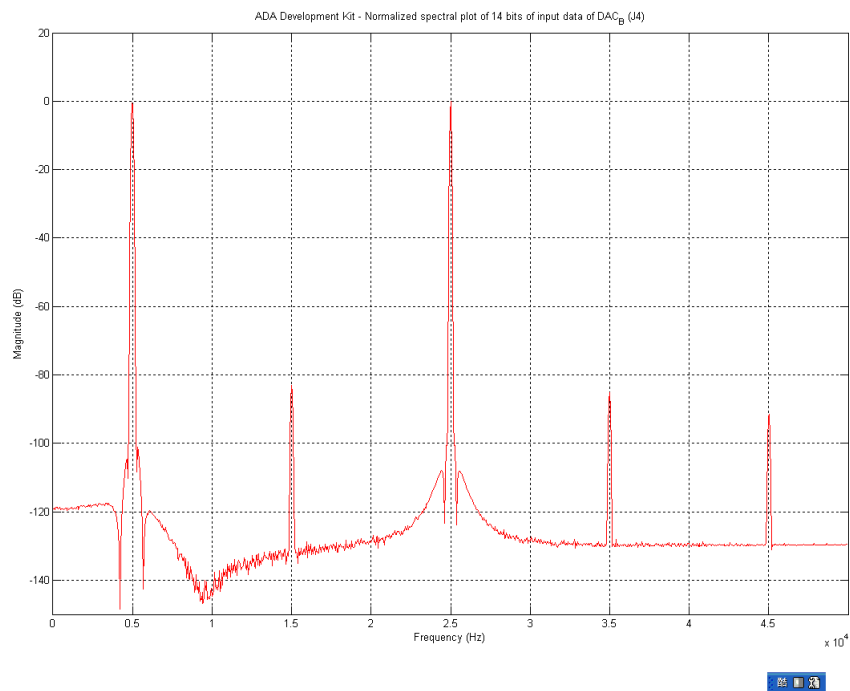
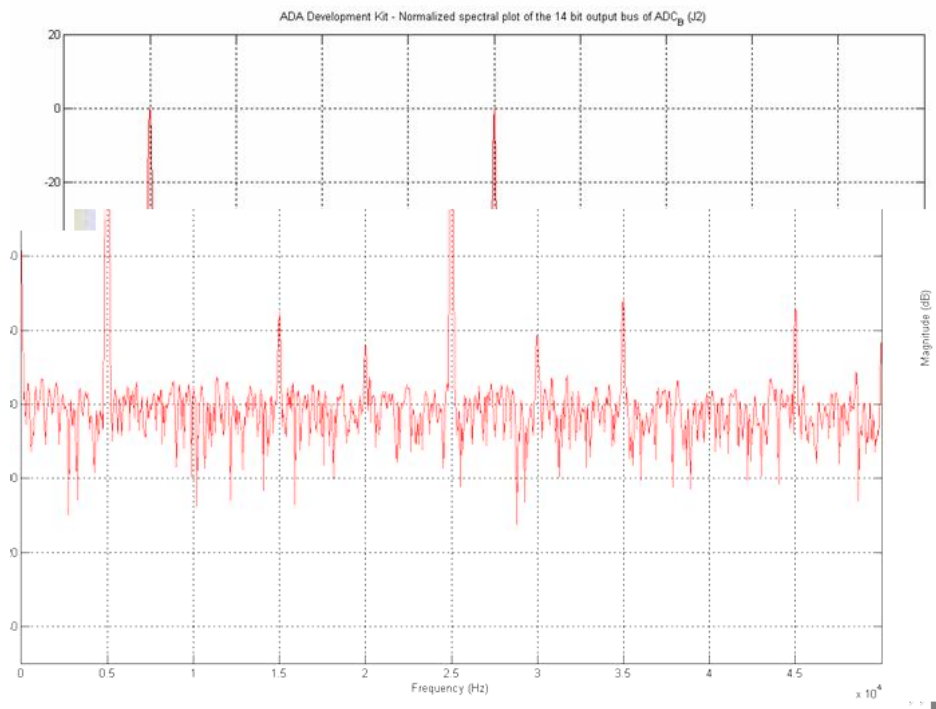

Figure 4-6 Normalized Spectral Plot of The 14-bit DAC B Input Data
Figure 4-7 Normalized Spectral Plot of The 14-bit ADC B Output Data
4. Type nstp_plot('stp1_auto_signaltap_0.txt') at the MATLAB command prompt. The MATLAB will display normalized FFT plots of DAC B input and ADC B output similar to **Figure 4-6** and **Figure 4-7**, respectively.